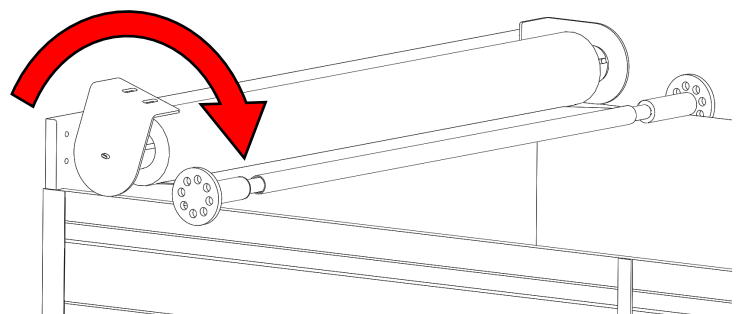

Figure 2: Tensioning Direction (16 to 18 Turns)
4. Turn the end plate clockwise 16 to 18 times (no more than 20 turns). The spool must be held tightly at all times due to the large amount of tension in the spool at this point. (FIGURE 2)